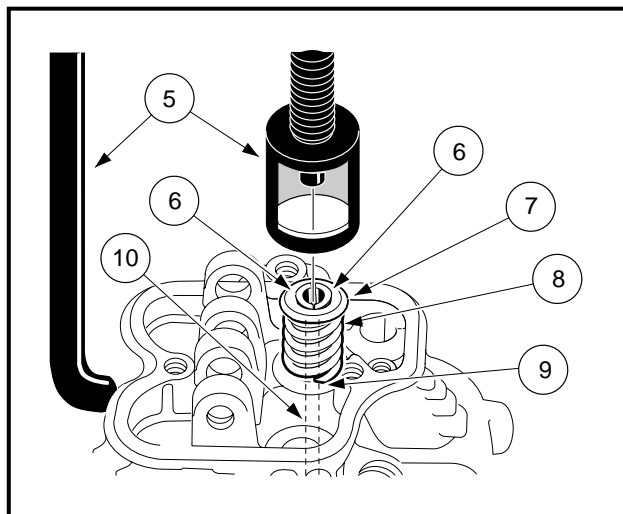
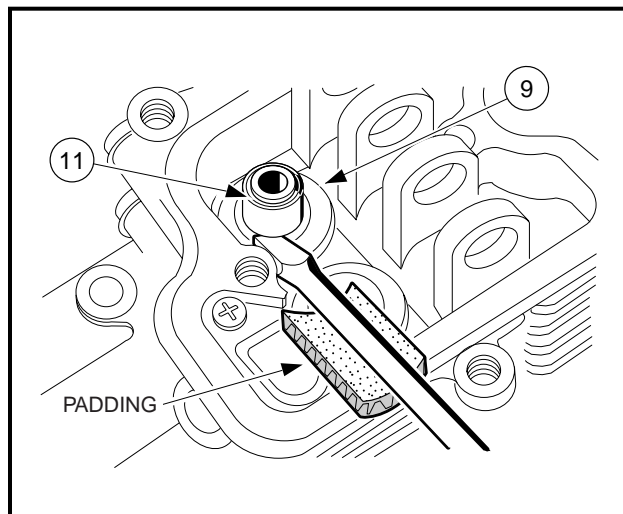

Figure 13-13 Valve Removal
Figure 13-14 Spring Seat Removal
1. Compress the valve spring with the valve spring compressor (5) (Club Car Part No. 101641101) and remove the collet halves (6) (**Figure 13-13, Page 13-12**).
2. Remove spring compressor, and take out the upper retainer (7) and the spring (8).
3. Remove valve (10).
4. Remove valve stem seal (11) with a screwdriver (**Figure 13-14, Page 13-12**). See following **CAUTION**.
- TO KEEP THE SCREWDRIVER FROM DAMAGING THE CYLINDER HEAD FLANGE SURFACE, PLACE A PIECE OF HEAVY CARDBOARD OR WOOD BETWEEN THEM (**FIGURE 13-14, PAGE 13-12**).
5. Remove spring seat (9) (**Figure 13-14, Page 13-12**).